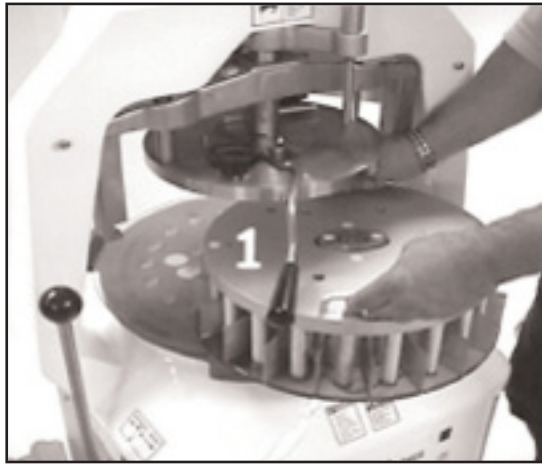

Figure 12
- Remove head assembly (Fig. 12, No. 1). This head can now be cleaned. (See pages 8 - 9).